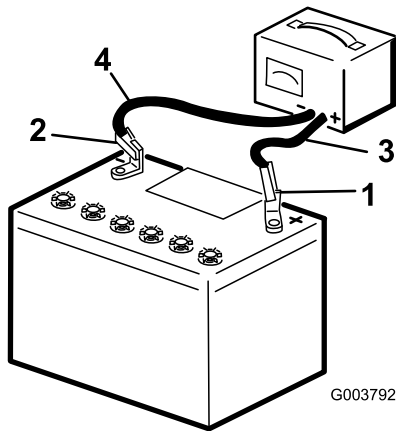

Figure 3
3. Connect a charger to the battery (Figure 3) and charge it for a minimum of 1 hour at 6 to 10 amps. Do not overcharge the battery.
4. When the battery is fully charged, unplug the charger from the electrical outlet, then disconnect the charger leads from the battery posts (Figure 3).